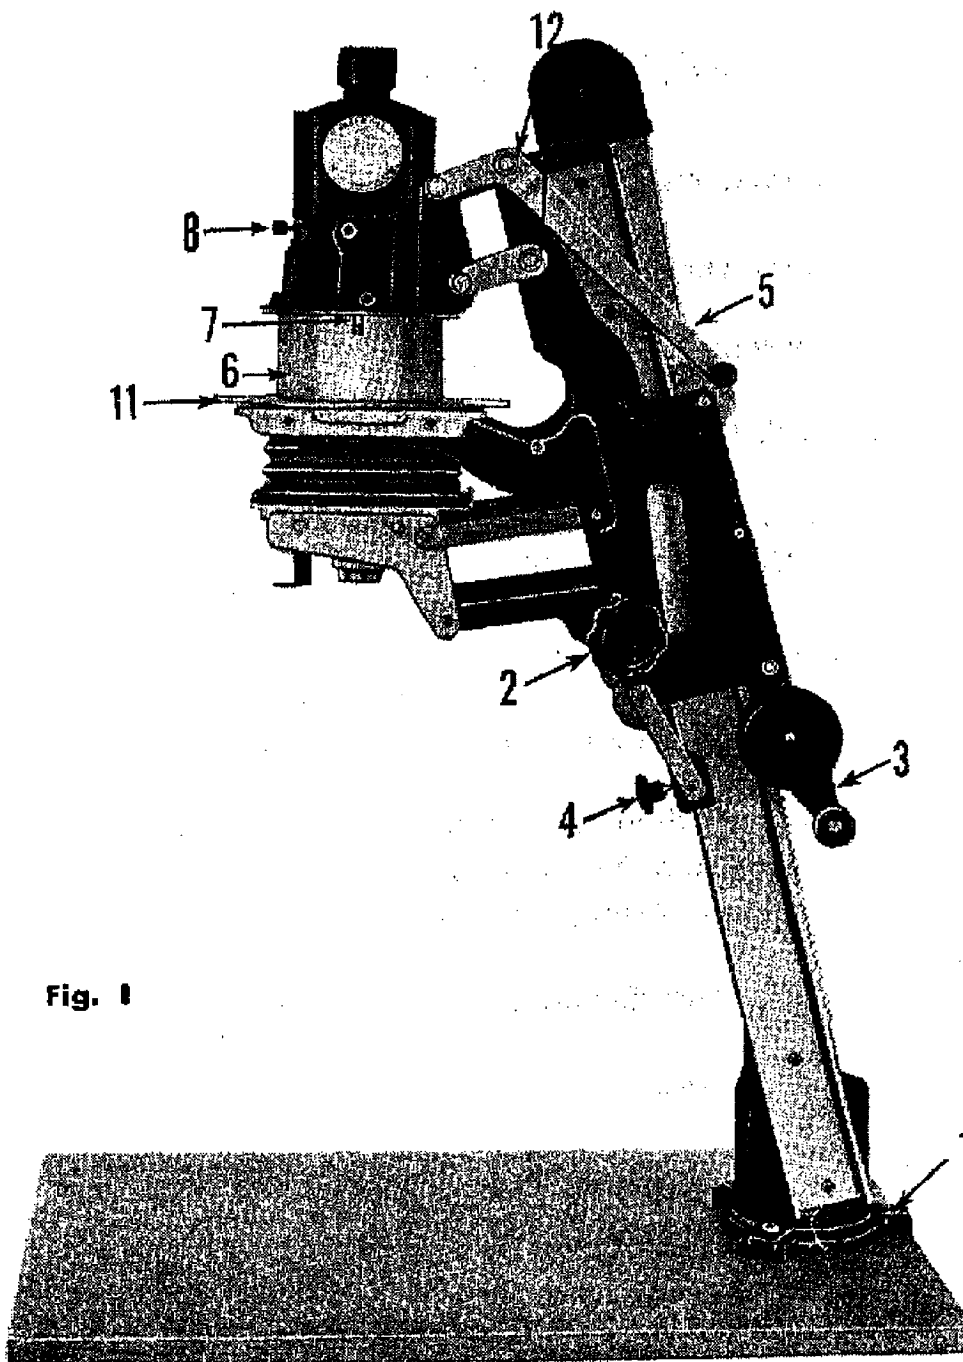
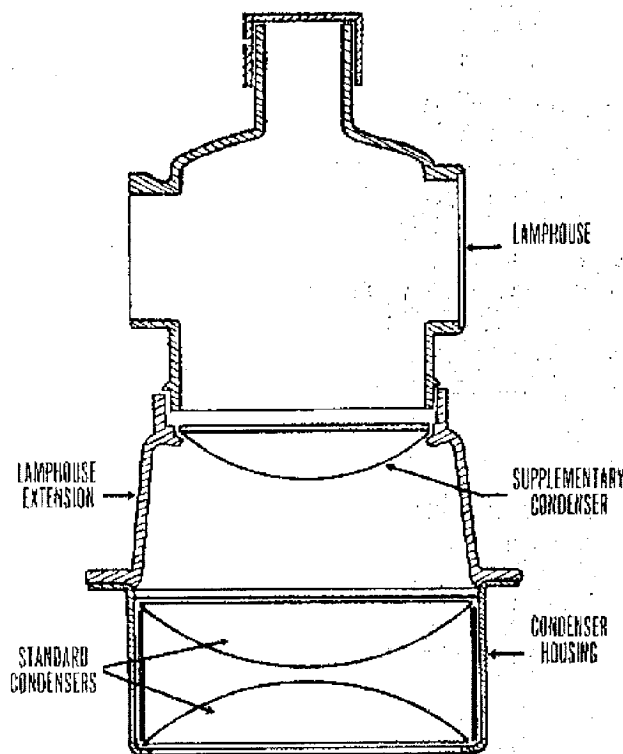

Fig. 1
Fig. 3
Set the baseboard on a table and remove at least one of the screws 1 (Fig. 1) and loosen the two others.
d. If you have a condenser enlarger, after unpacking the lamphouse and condensers, please clean condensers with lens tissue or a clean soft towel. Install condensers in the condenser housing with the curved surfaces facing each other on the inside so that the flat surfaces are on the top and bottom, as illustrated in Fig. 3.
If you have an enlarging lens of either 3" (75mm) or 2" (50mm), a supplementary condenser must be placed under the lamphouse into the lamphouse extension. Loosen screw 8 (Fig. 1), lift up lamphouse and insert condenser with flat side up as shown in Fig. 3.
e. Place the entire lamphouse and condenser assembly on the film stage of the enlarger and attach it to the lifting mechanism by means of knurled screws 12. If the enlarger is equipped with an Omegalite instead of a condenser lamphouse, the procedure is the same, i.e., the lamphouse is attached to the rest of the enlarger by means of four knurled screws 12 (Fig. 3, page 10).
accessible after the top part of the lamphouse has been removed (screw No. 8). The flat side of this supplementary condenser lens always faces upward (see Fig. 3).